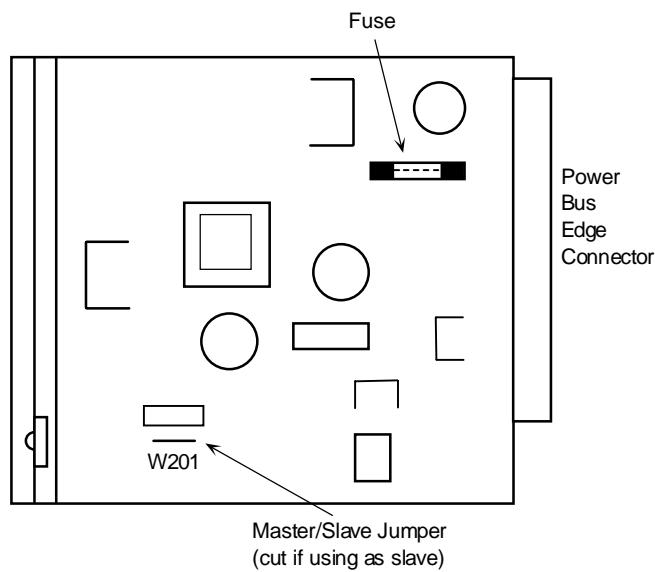

Figure 2-7. 105V Ringing Generator Jumper Setting
2. Make sure jumper W201 is installed if this is the only ringing generator in the unit, or if it is the MASTER ringing generator, Figure 2-7. If this is a SLAVE ringing generator, cut jumper W201 with wire cutters.